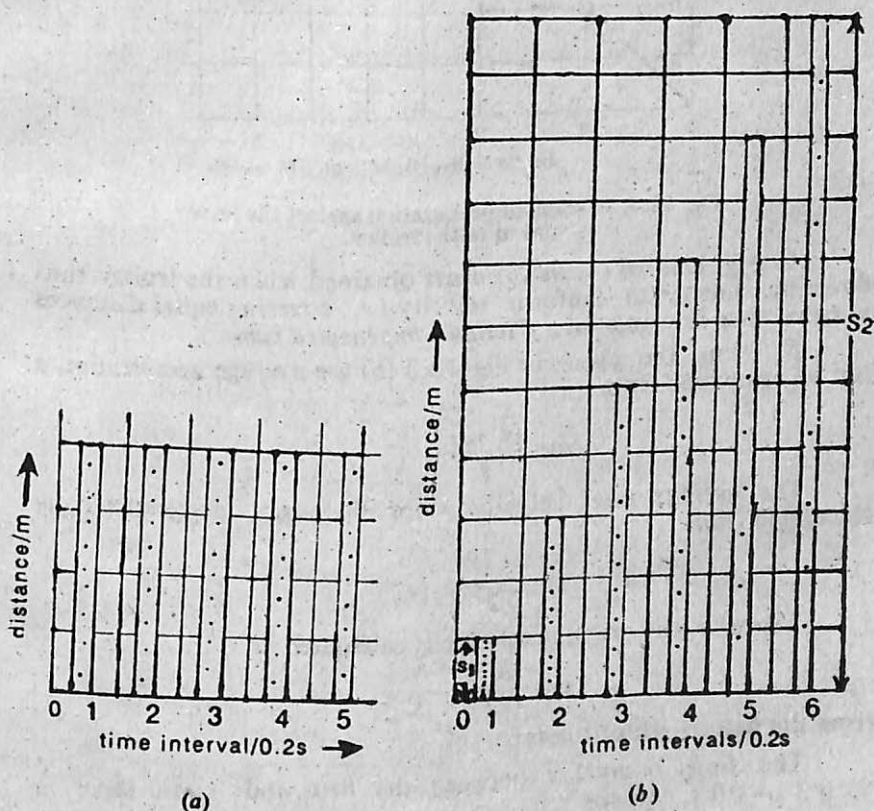

Fig. 12.3. Tape charts for (a) uniform motion on the friction-compensated runway and (b) accelerated motion.
3. After a successful run, detach the tape and, disregarding the first series of dots, cut it up into strips which each represent 10 vibrations or 0.2 s (10×0.02 s). These strips can be stuck on a sheet of graph paper to give a chart like that in Fig. 12.3 (b).
4. Fig. 12.3 (a) shows the chart obtained when the trolley runs down the runway at uniform velocity *i.e.*, covering equal distances in equal time intervals on a *friction-compensated runway*.
5. Using the chart in Fig. 12.3 (b) the average acceleration a can be calculated from
(ii) When the preliminary adjustments are complete, attach a 3 m length of tape to the trolley and apply a steady force using two or three stretched elastic cords. Using the technique shown in Fig. 12.3 (b), calculate the acceleration a and hence find $\frac{1}{a}$ for the single trolley.